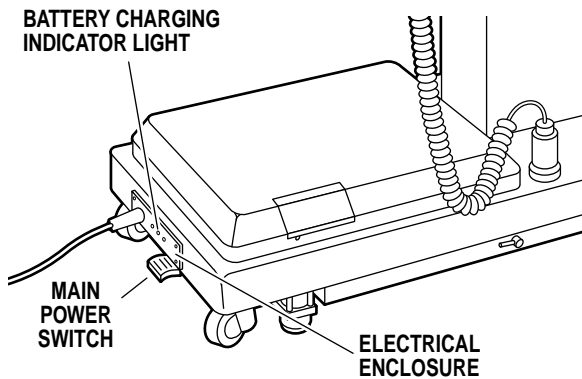
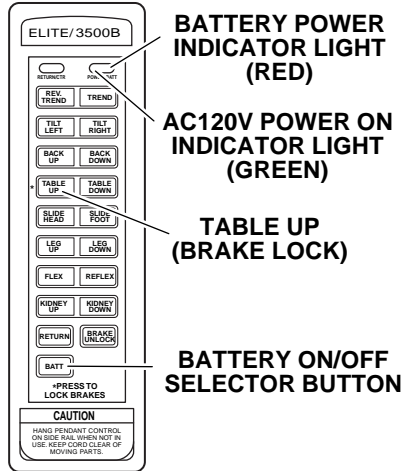

Figure 3-1. Main Power Switch
Figure 3-2. Pendant Control
b. Depress the main power ON/OFF switch located on the electrical enclosure. See figure 3-1. The green AC 120V, Power-On indicator light located in the upper right corner of the pendant control will illuminate. See figure 3-2.